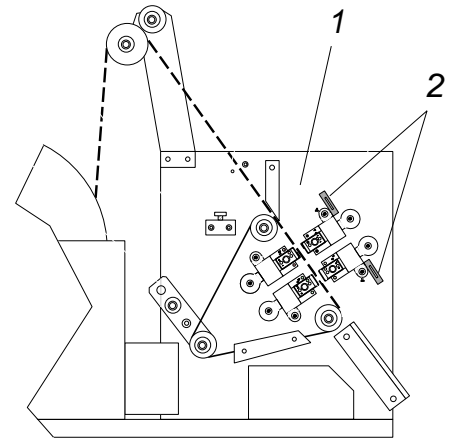

Figure 13 Station Position Adjustment
The CF-9's die stations are independently adjustable to control forming and cutting locations. The action performed on component leads by each die station can be relocated from a zero (0) position. GPD suggests setting the zero (0) reference point at the machine's upright plate (Figure 13, Item 1). This position also corresponds with the lead wire point of attachment to the tape. Refer to *Taping Specifications* on page 30.